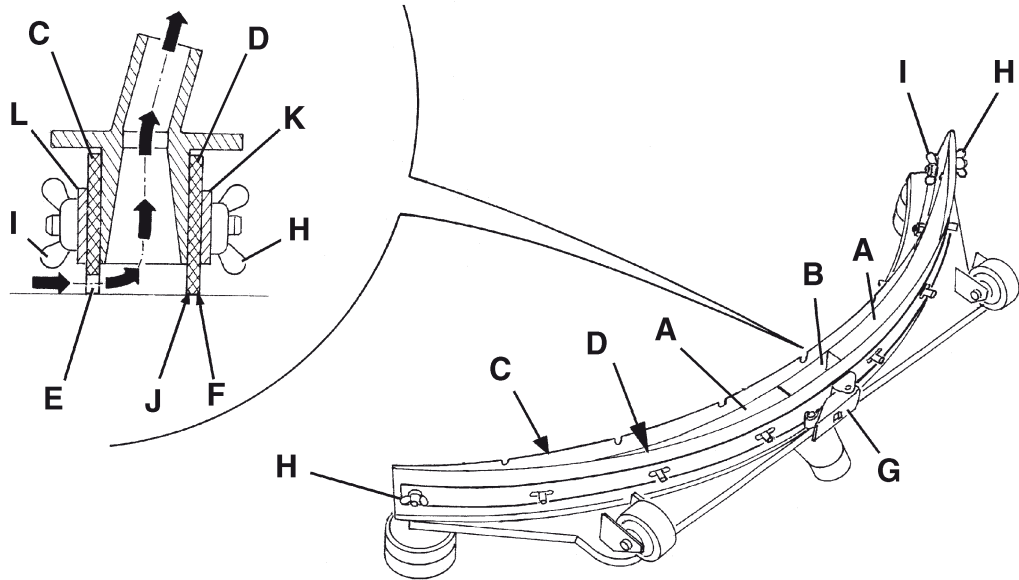
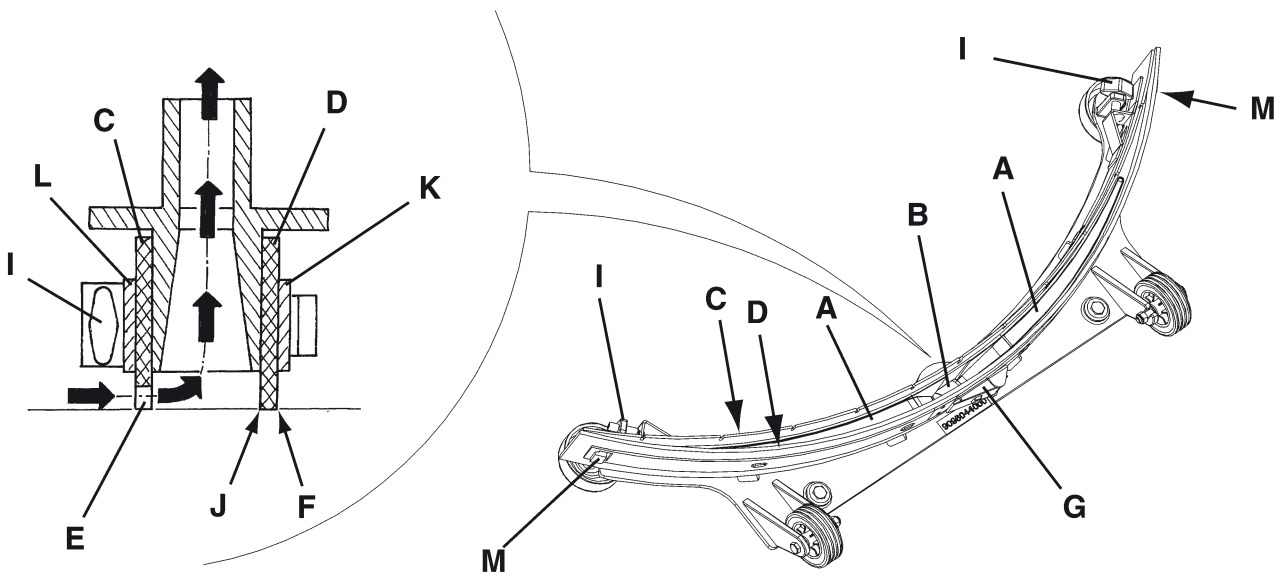

Fig. 1
Fig. 2
2. - (For **BA 451D, BA 531D, BA 551D, BA 551CD, BA 611D**) Turn the ignition key (80) to "0".
- (For **BA 451, BA 531, BA 551**) Turn off the switches (71) and (73).
- (For **CA 451, CA 531, CA 551**) Disconnect the power supply cable (59) from the electrical mains.
3. Lower the squeegee (25) with the lever (10).
4. Loosen the handwheels (26) and remove the squeegee (25).
5. Disconnect the vacuum hose (15) from the squeegee.
6. Clean the steel squeegee (Fig. 1) or the aluminium squeegee (Fig. 2). Clean the compartments (A, Fig. 1 or 2) and the hole (B) especially. Check the front blade (C) and the rear blade (D) for integrity, cuts and tears; otherwise replace them (see the procedure in the following paragraph).
8. Clean the steel squeegee (Fig. 1) or the aluminium squeegee (Fig. 2), according to the procedure shown in the previous paragraph.
9. Check that the edges (E, Fig. 1 or 2) of the front blade (C) and the edges (F) of the rear blade (D) lay down on the same level, along their length; otherwise adjust their height according to the following procedure:
- Release the tie rod (G, Fig. 1 or 2) and loosen the wing nuts (H, Fig. 1), or disengage the fasteners (M, Fig. 2) and adjust the rear blade (D, Fig. 1 or 2), then tighten the wing nuts, or engage the fasteners, and then engage the tie rod.
- Loosen the handwheels (I) and adjust the front blade (C, Fig. 1 or 2); then tighten the handwheels.
10. Check the front blade (C, Fig. 1 or 2) and rear blade (D) for integrity, cuts and tears; if necessary replace them according to the following procedure. Check that the front corner (J) of the rear blade is not worn; otherwise, overturn the blade to replace the worn corner with an integral one. If the other corners are worn too, replace the blade according to the following procedure:
- Release the tie rod (G), remove the wing nuts (H) or disengage the fasteners (M), remove the retaining strip (K), then replace/overturn the rear blade (D). Then install the blade in the reverse order of removal.
- Unscrew the handwheels (I) and remove the retaining strip (L), then replace the front blade (C). Install the blade in the reverse order of removal.After the blade replacement (or overturning), adjust the height as shown in the previous step.
11. Connect the vacuum hose (15) to the squeegee.
12. Install the squeegee (25) and screw down the handwheels (26).
13. If necessary, adjust the squeegee balance adjusting handwheel (27).